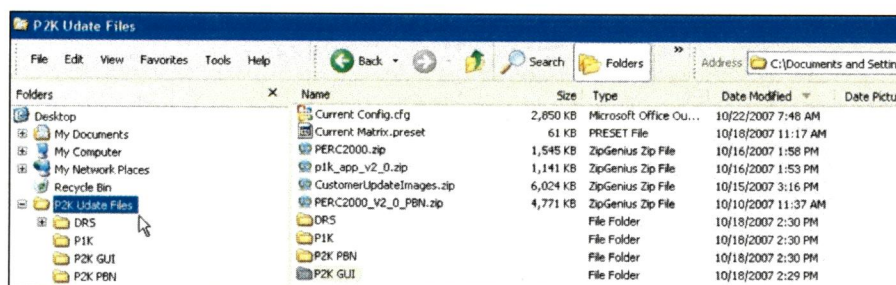

Figure 46. Configuration and Preset File Identification
- ☐ 1. Locate the controller configuration file (filename.cfg) and the matrix preset file (filename.preset) you created in Paragraph 5.0. In the example screen, Figure 46, these are shown as **Current Config.cfg** and **Current Matrix.preset**. Make a note of the folder containing these files.